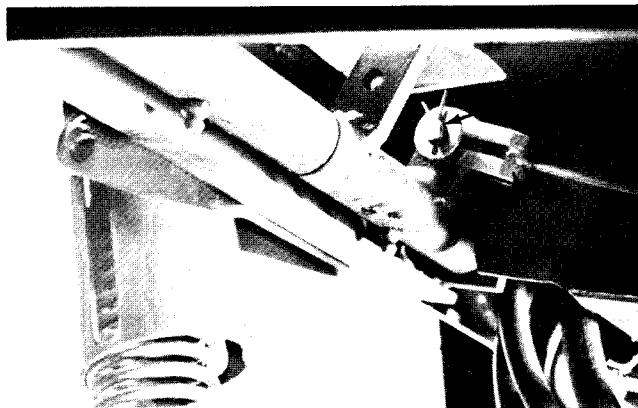
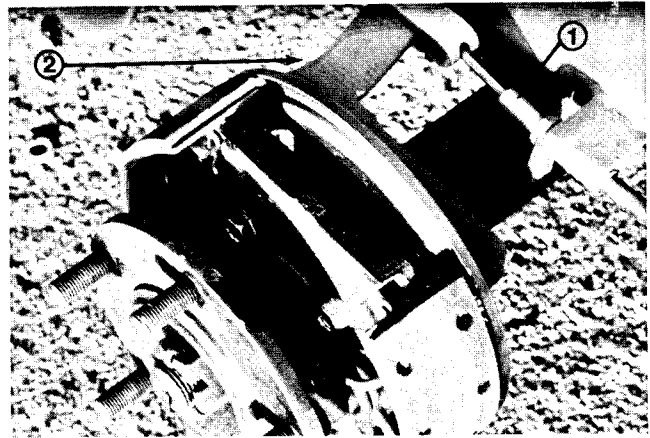

Figure 9
Figure 14
2. Remove the cotter pins, clevis pins and flat washers to disengage the brake cables from the brake pedals (Fig. 9).
7. Connect the brake cables to the brake pedals (Fig. 9). Adjust the brakes (see Adjusting Brakes in the Maintenance section of this chapter).
3. Remove the cotter keys and clevis pins attaching the brake cable to the brake strut (Fig. 14) and brake pedal (Fig. 9).